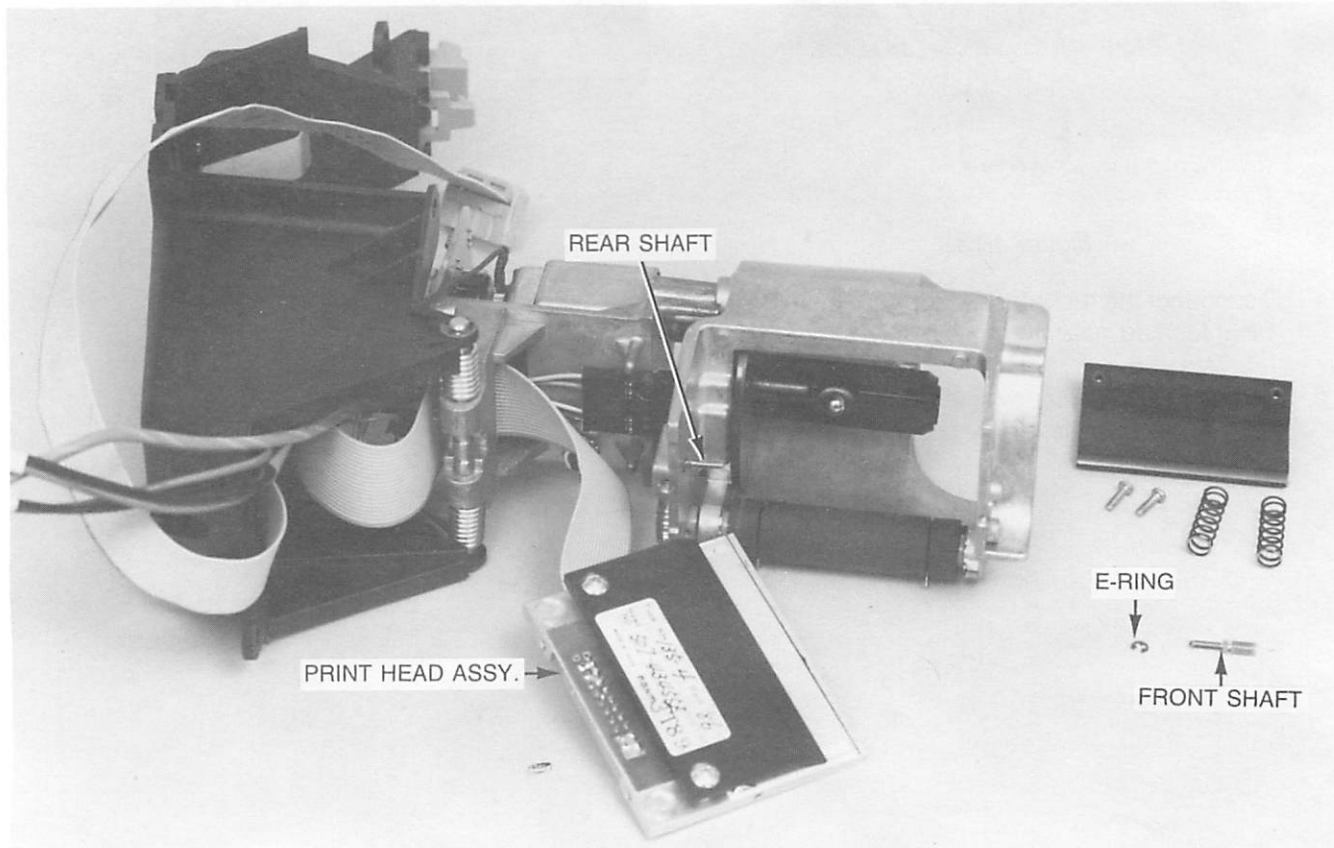

Figure 4-15.
6. Grasp the front shaft with long-nose pliers and pull it out of the print head. See assembly breakdown Figure 4-15.